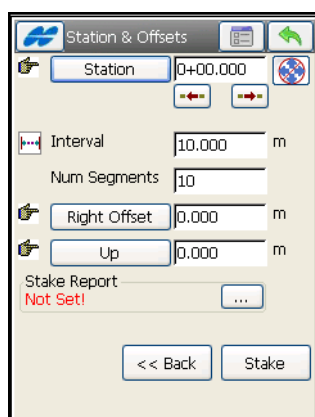

Figure 9-27. Station & Offsets
3. In the *Sta&Ofst* (Station & Offsets) screen, set the station along the line being staked, the station staking interval, the right or left offset of the stakeout point with respect to the line, the *Up* or *Down Height* offset, the *height* and the *type* of the antenna height (GPS mode), or the height of the rod (target) (TS mode). If the number of segments has been selected, the station interval is automatically computed and cannot be changed (Figure 9-27).